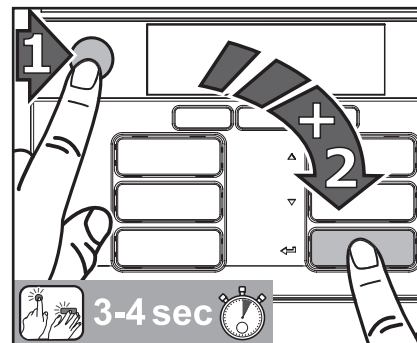

Fig. 24
1. Press first the STOP button and then the enter button and hold them pressed simultaneously for 3-4 seconds to enter the cleaning mode (fig. 24).